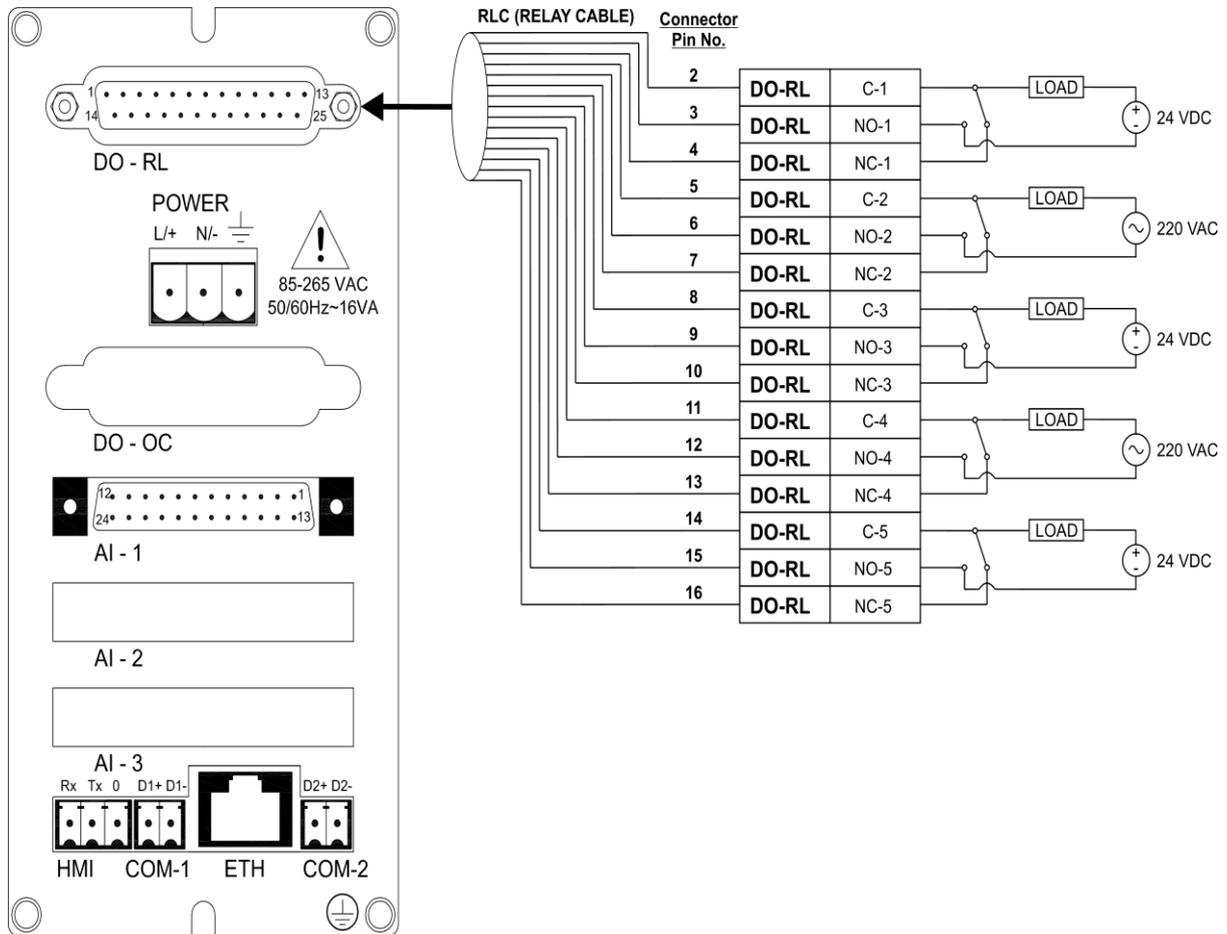
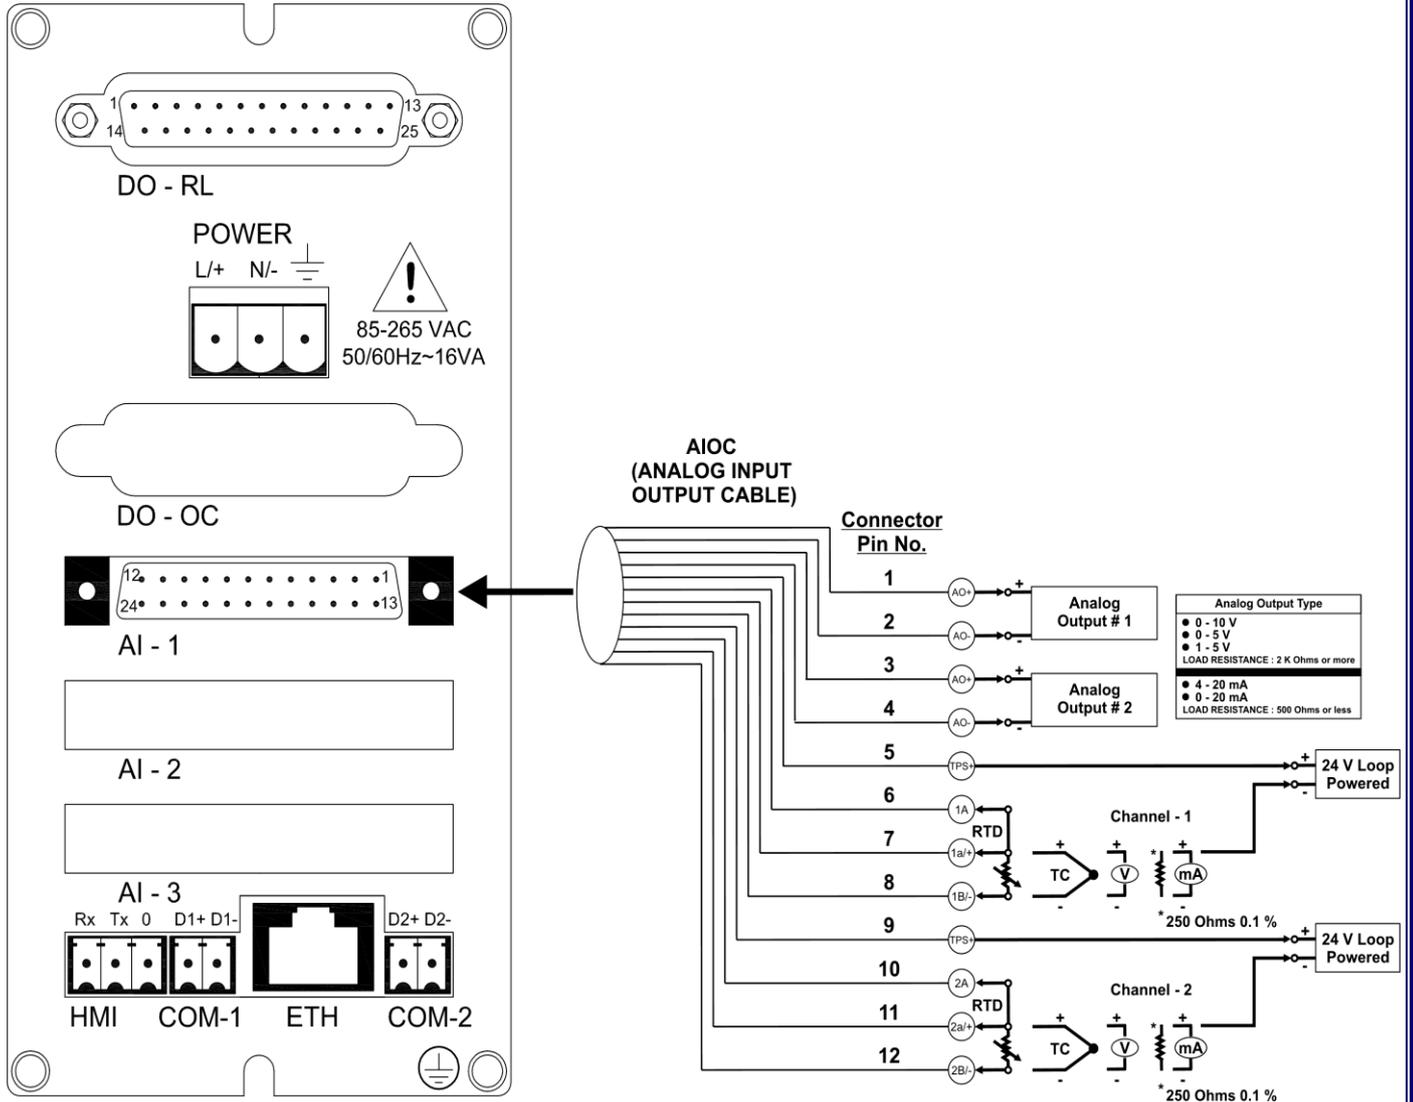
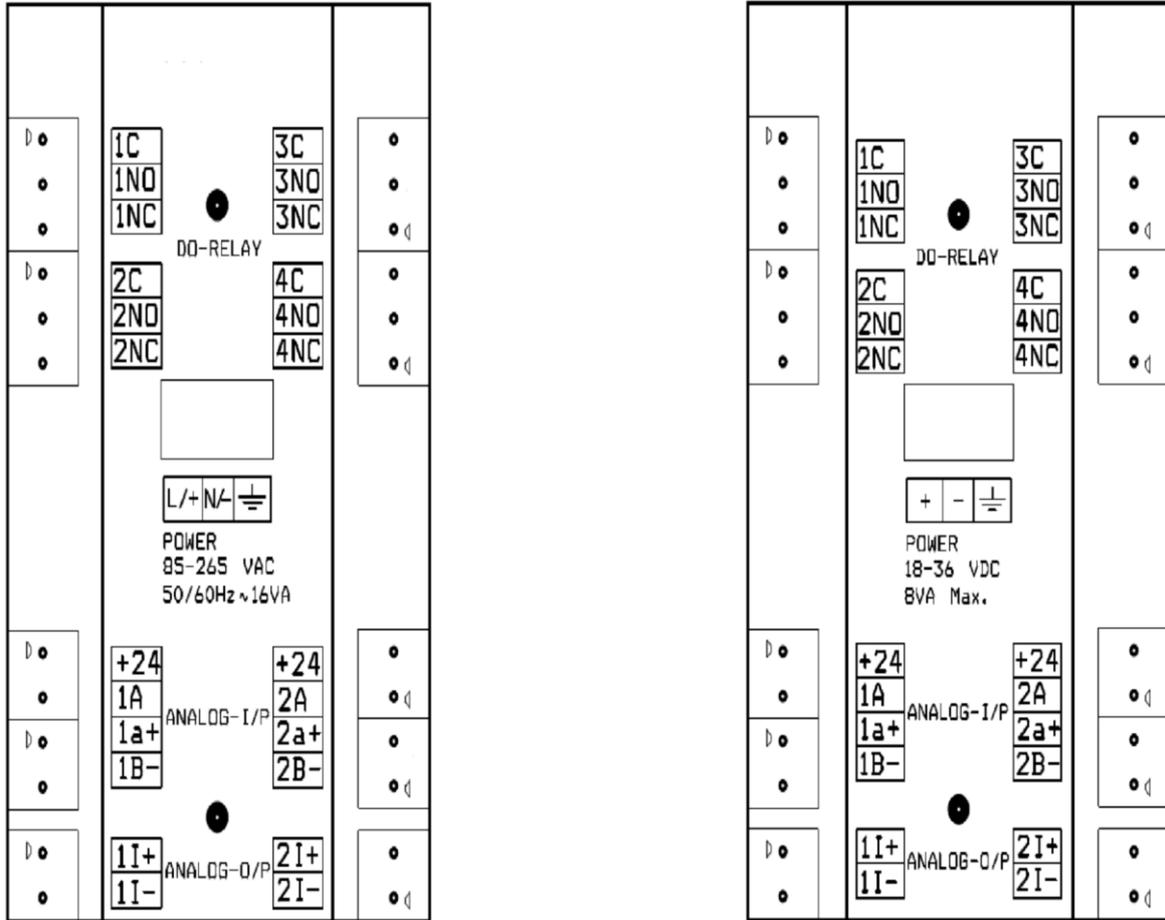

Figure 7 Relay Cable Connection
Figure 8 Analog Input Output Cable Connection
Figure 9 Back Plate Wiring Details
- 1) Connect Digital Output- Relay cable, Analog Input cable and Communication cable to 40005E as shown in figure 7, figure 8, figure 9 respectively.